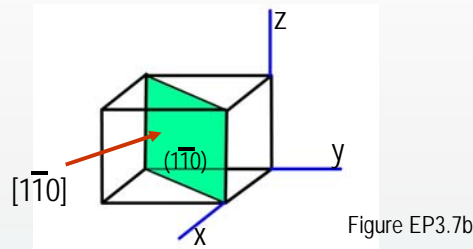

Figure EP3.7b
- b. First determine the reciprocals of the Miller indices of the $(1\bar{1}0)$ plane. These are $1, -1, \infty$. The $(1\bar{1}0)$ plane must pass through a unit cube at intercepts $x = 1$ and $y = -1$ and be parallel to the z axis. Note that the origin of axes must be moved to the lower-right back side of the cube (Fig. EP3.7b).